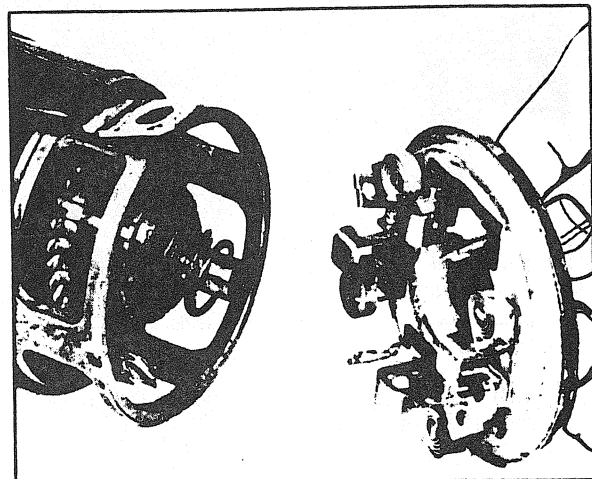

FIGURE 6
- Remove commutator end frame, being careful not to lose any of the steel and insulating washers and springs (Fig. 6).